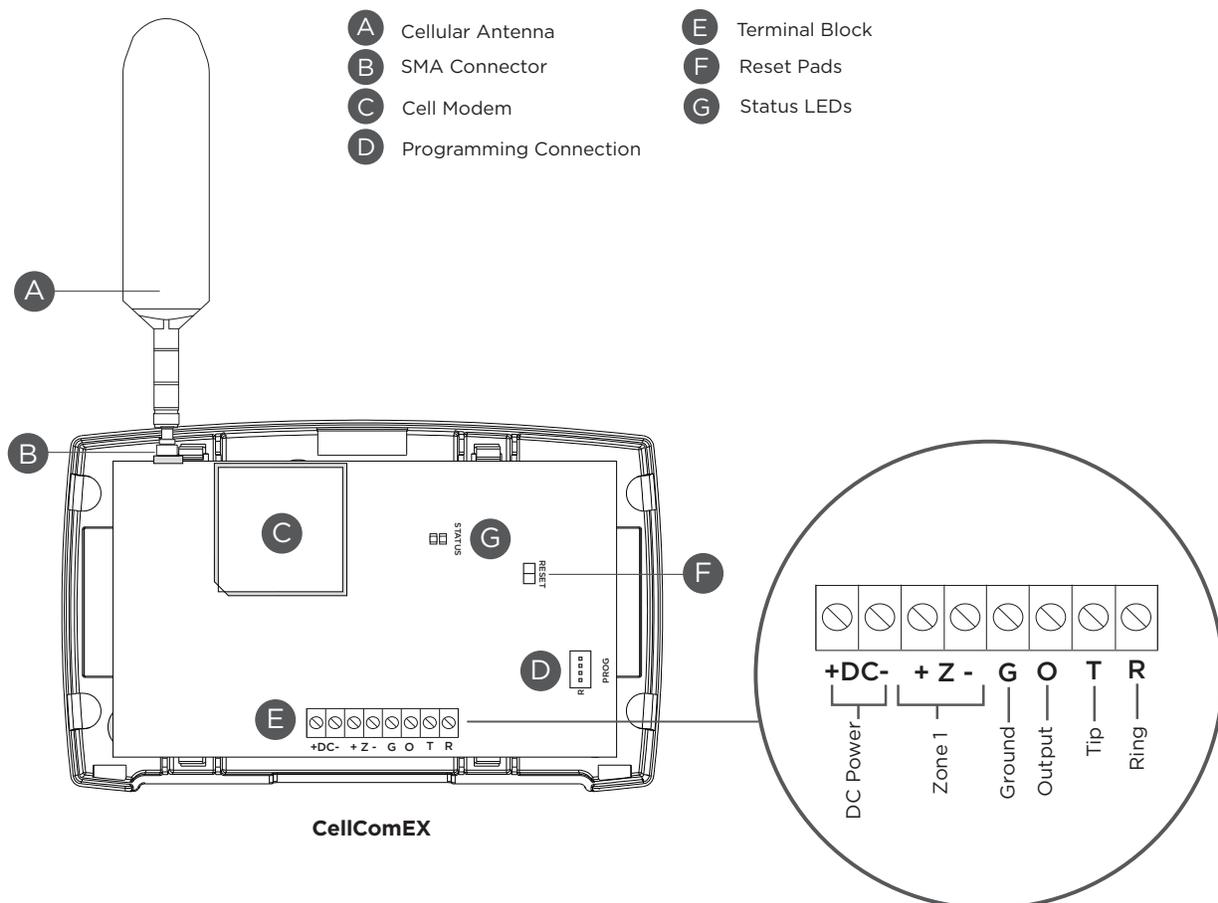

Figure 1: CellComEX Components
1. Attach the antenna to the SMA connector. Refer to Figure 1.